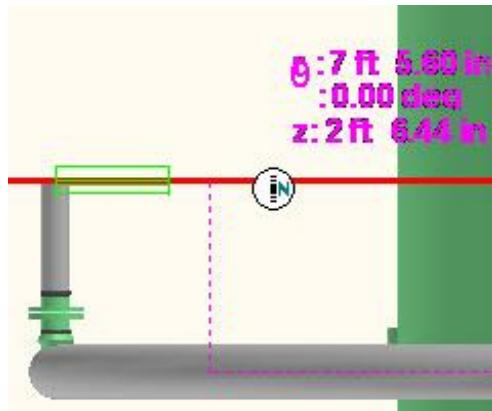

Figure 11. 29: Pipe Route Toward Centerline of Tank-01
28. While still in the Route command, route 1' 6" South towards the centerline of Tank-01. A Northing Glyph should appear as shown in Figure 11. 29.